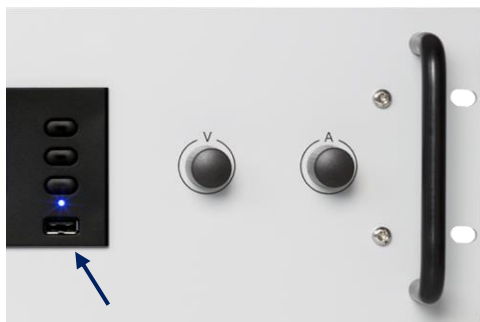

Figure 7.7: The location of the front USB-connector.
- The type-A (Host) connectors are located at the front panel near the display, and one at the rear panel (CON E), see Figure 7.6 and Figure 7.7.